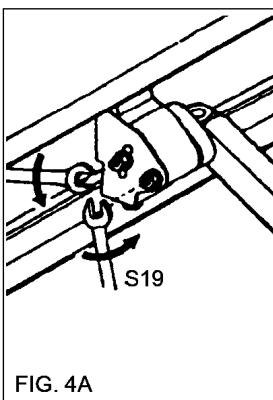

FIG. 4A
- \* loosen the 2 sidenuts of the arm support (fig. 4A).